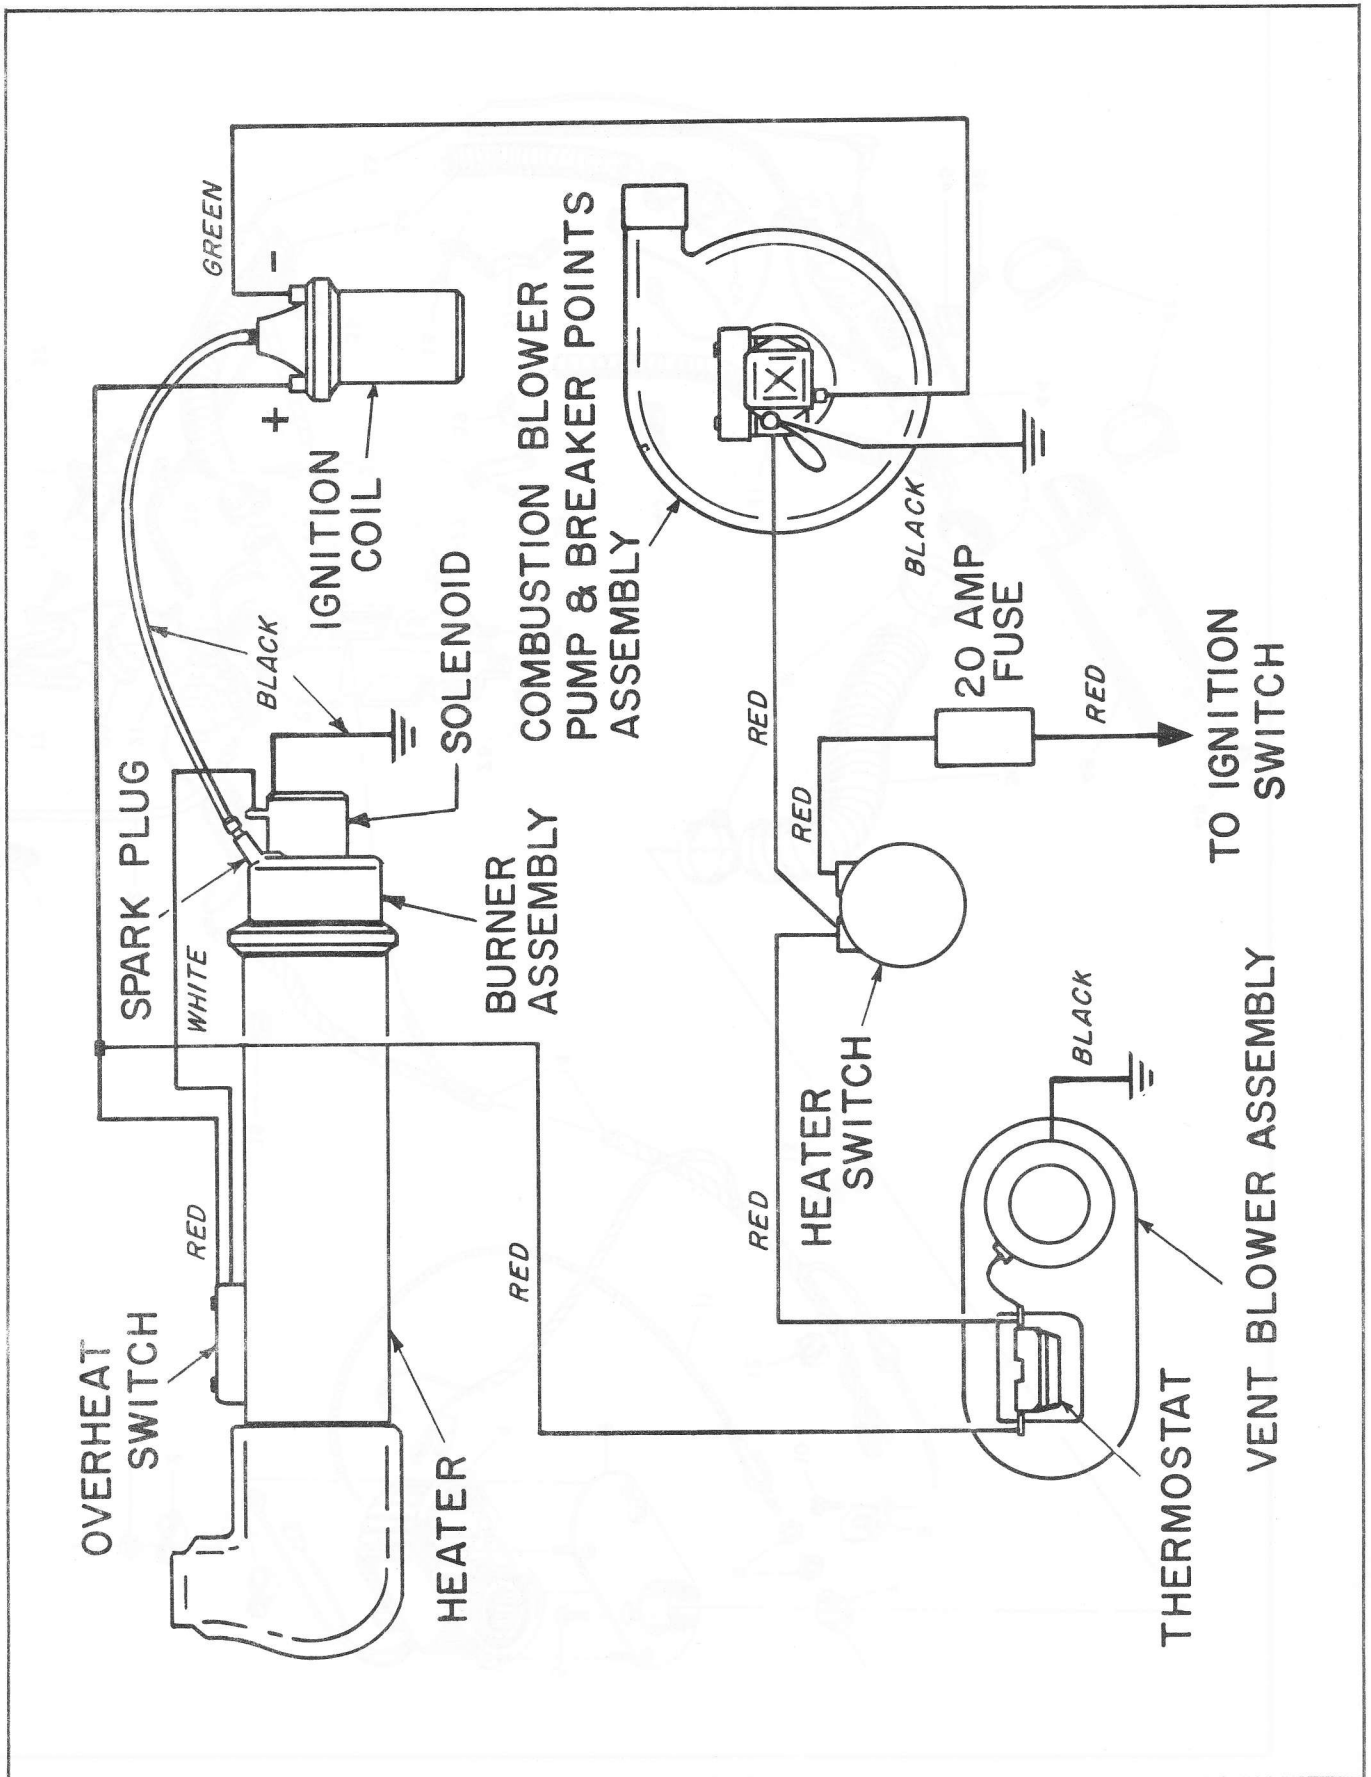

FIGURE 17 WIRING DIAGRAM
17. Check all wiring installations and see that all loose and/or free sections are securely clamped in place. This concludes all electrical connections for the heater. (See Figure 17)